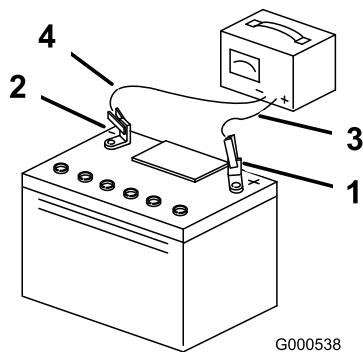

Figure 40
5. When the battery is fully charged, unplug the charger from the electrical outlet, then disconnect the charger leads from the battery posts (Figure 40).